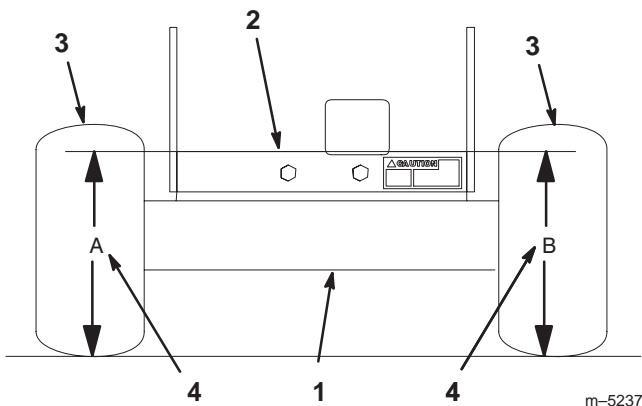

Figure 45
3. Measure engine deck height at location "A" (Fig. 45).
4. Measure engine deck height at location "B" (Fig. 45).